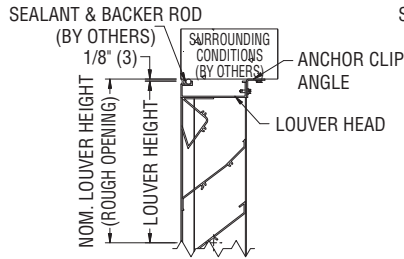

FIG. 2.2 - LOUVER HEAD
4. Place the louver section into the opening. See Fig. 2.2, 2.3 (stationary only), 2.4 and 2.5.
6. When the louver is level and in the proper position, fasten louver frame to clip angles with (2) minimum #10 s.m. screws. (Fasteners are by others).